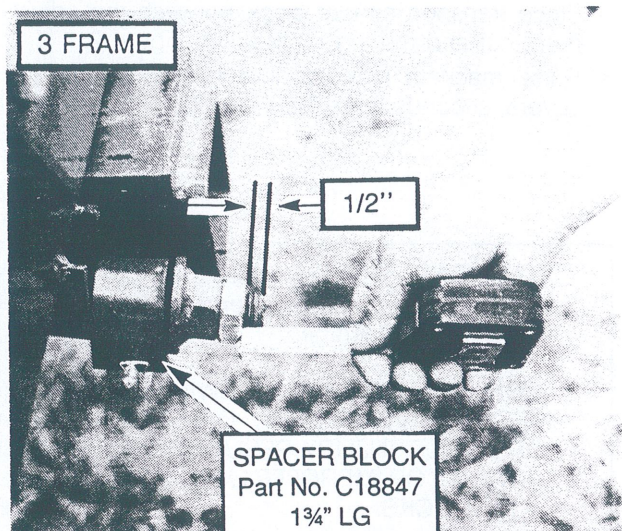

Figure 4
- (c) **3 Frame:** Adjust the Main Frame wheel control rods so that 1/2" of rod is past the Jam Nut. See Figure 4.